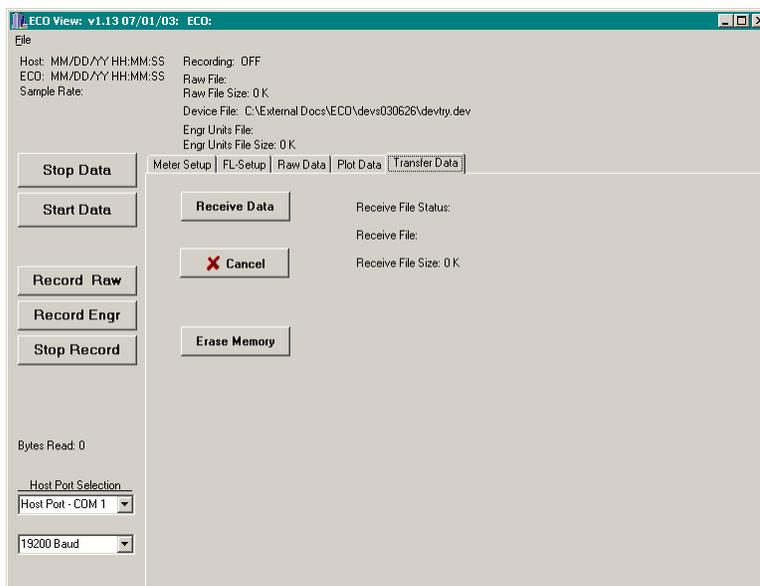

Figure 6. Transfer Data tab
1. If you have an *ECO* meter capable of internally logging data and selected that option under the **Meter Setup** tab, you can transfer (upload) internally logged data to the host computer by selecting the **Transfer Data** tab, then **Receive Data** (Figure 6). Status indicators to the right of this button will display file upload progress.